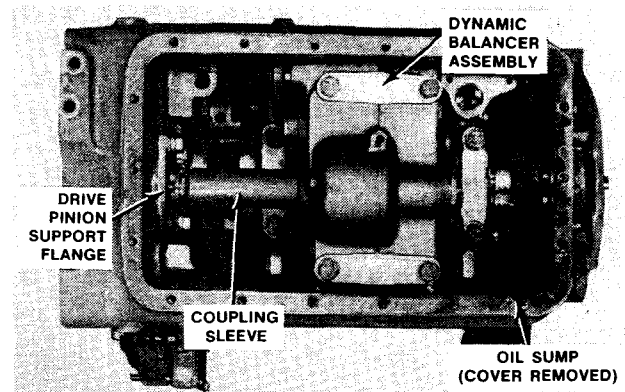

FIG. 36 Dynamic Balancer Assembly (SSD-437)
- **SSD-437 Engine** — Remove the oil sump cover. Remove the cover gasket and discard. Remove the oil suction tube from the oil pump. Remove the bolts securing the dynamic balancer to its supports. Lift the balancer and move it to the rear while disengaging the coupling sleeve from the splined drive pinion (Fig. 36). Remove the coupling sleeve and balancer assembly from the engine. Remove the drive pinion oil tube, drive pinion, and support flange.